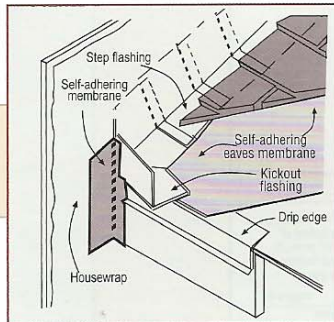

FIGURE 10
Because of the volume of water that can pour down a sloped roof, one of the most critical flashing details occurs where a roof intersects a sidewall. The roof should be flashed with step flashing. Where the roof terminates, install a kickout to deflect water away from the siding (figure 10).
The illustration (Figure 10) was reprinted with permission of THE JOURNAL OF LIGHT CONSTRUCTION. For subscription information, call (800) - 375-5981 or visit [www.jlconline.com](http://www.jlconline.com).